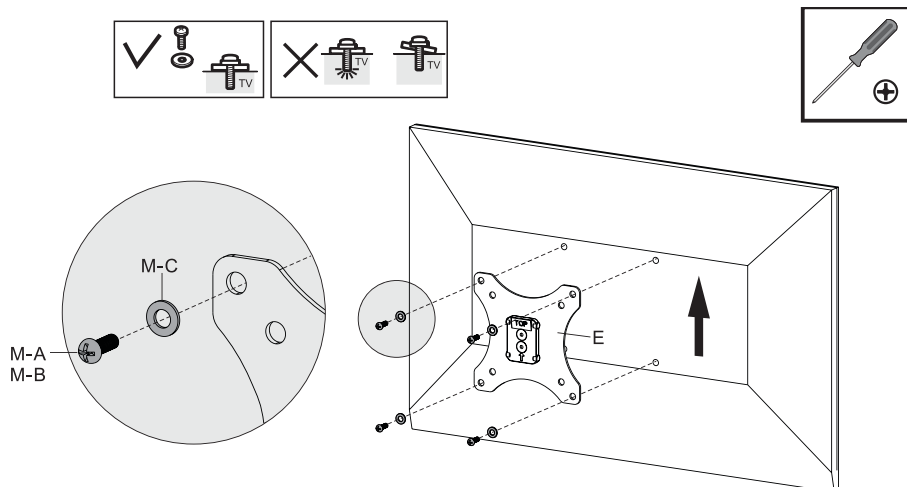

Figure 6
2. Install Washer (M-C) with Bolt (M-A/M-B) into the monitor's mounting holes, tighten them using a Phillips screwdriver, see Figure 6.